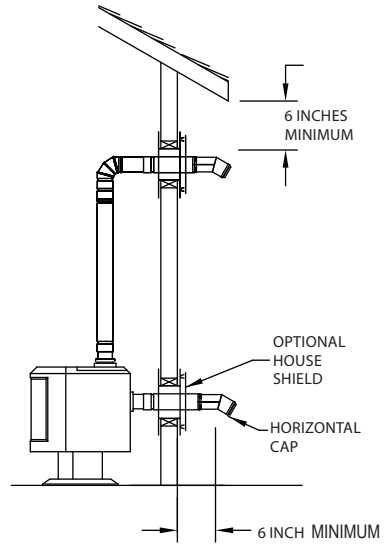

Figure 6
5. If the flue exit is on back of the stove, and a horizontal through-the-wall installation is desired (**Figure 6**):
- B.** Connect the Pipe Adapter to back of stove and attach sufficient pipe to penetrate Wall Thimble and extend at least 6" beyond the exterior wall. You may install the optional House Shield as shown in **Figure 6**. The House Shield is used to protect the exterior wall from vent discharge. Attach a Square or Round Horizontal Cap. The Round Horizontal